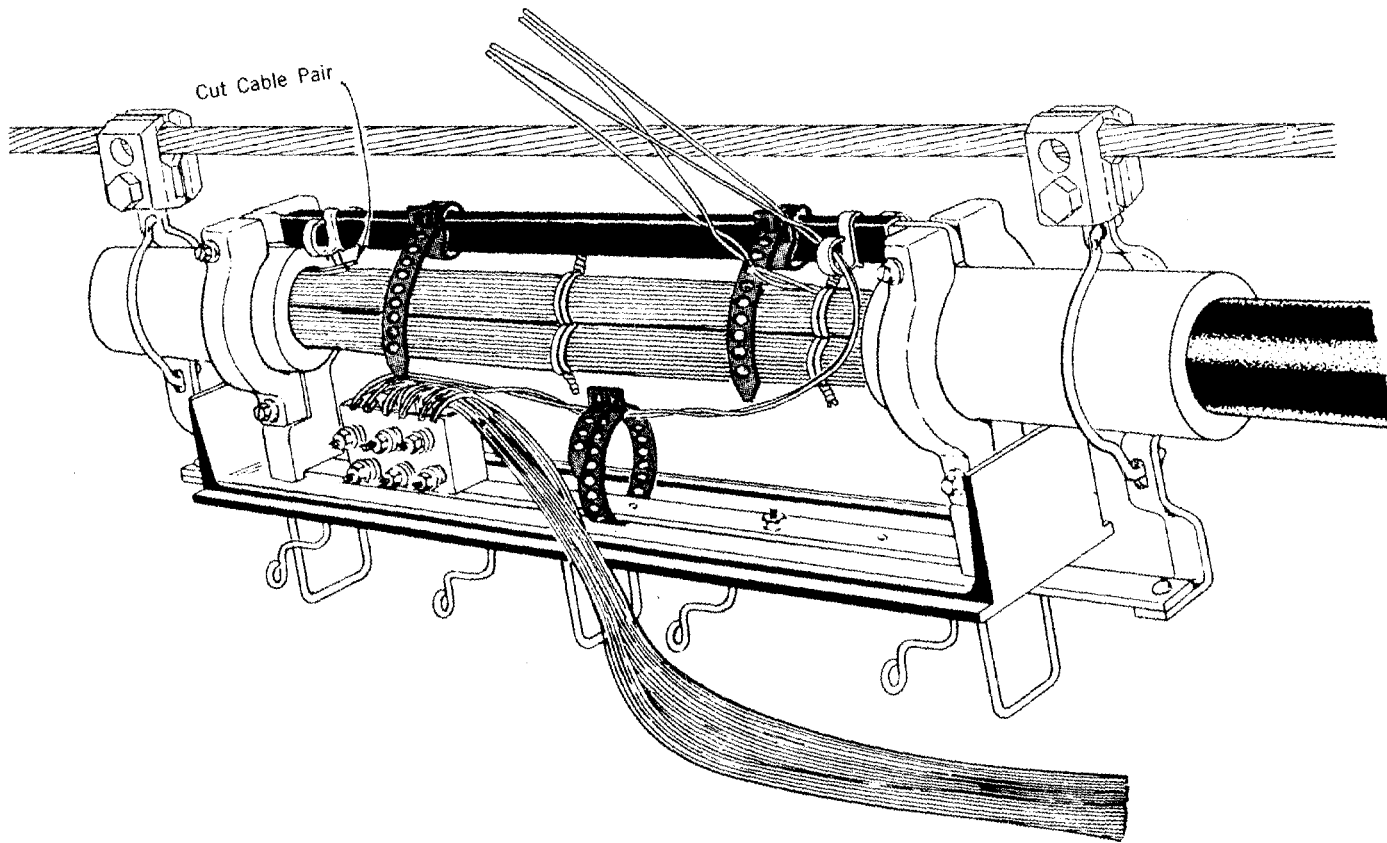

Fig. 12 - Wire Arrangement at Stub Locations
- (1) Cut off (as close to the terminal block as feasible) one ring (or tip) lead to each binding post. This should be done for the initial furnished terminal block and for subsequent blocks.
- (2) Twist together the remaining leads for the assigned binding post to form a pair.
- (3) Loop the binding post pair through the tie rod clip.
- (4) Match the binding post pair with the cut cable pair and cut the pairs so they are of equal lengths. See Fig. 12.